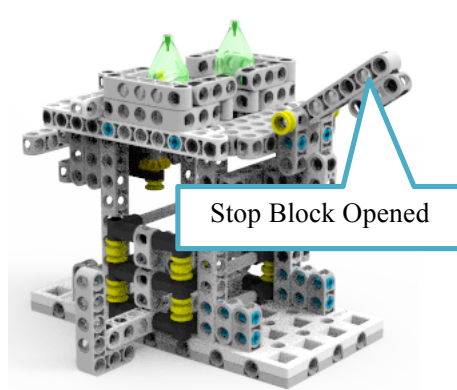

Figure 3-3-2 Finished Status 1
3.3.2 Robot opens the Stop Block, the Finished Status 1 (as shown in Figure 3-3-2, 20 points).